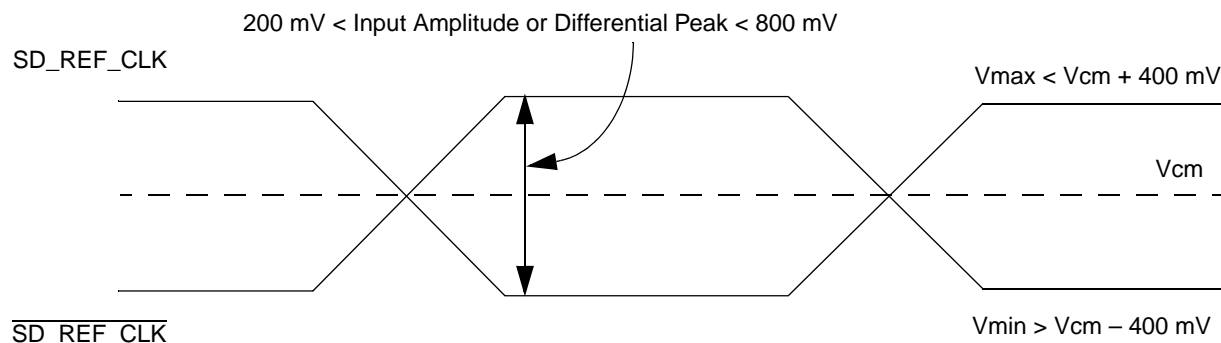

Figure 41. Differential Reference Clock Input DC Requirements (External AC-Coupled)
- For **external AC-coupled** connection, there is no common mode voltage requirement for the clock driver. Since the external AC-coupling capacitor blocks the DC level, the clock driver and the SerDes reference clock receiver operate in different common mode voltages. The SerDes reference clock receiver in this connection scheme has its common mode voltage set to XCOREVSS. Each signal wire of the differential inputs is allowed to swing below and above the common mode voltage (XCOREVSS). Figure 41 shows the SerDes reference clock input requirement for AC-coupled connection scheme.